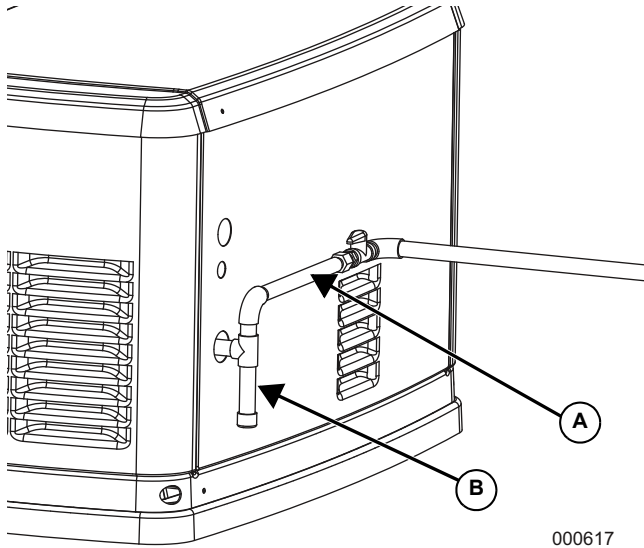

Figure 5-3. Sediment Trap
- 1/2" ball valve, part number 0K8752 (A)
- 3/4" ball valve, part number 0K8754 (B)
- When connecting the gas line to the generator, use UL Listed or AGA-approved flexible fuel line in accordance with local regulations. See **A** in Figure 5-3. The purpose of the flexible fuel line is to ensure that vibration from the generator does not
cause a gas leak at one of the connection points. It is important that the line be installed with as few bends as possible. Install the recommended sediment trap (required by some local codes) as illustrated (**B** in Figure 5-3).